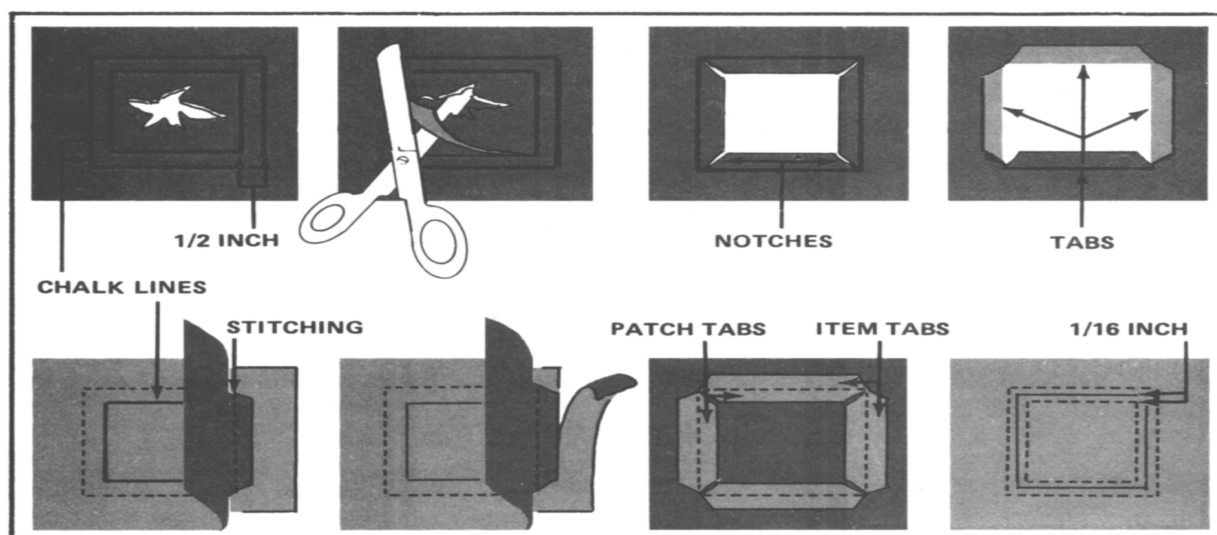

Figure 4-6. Set-in patch
b. Set-In Patch. The set-in patch (Figure 4-6) is not like a top patch or inverted patch, which is sewn on or under a damaged area. A set-in patch takes the place of a damaged area. The damaged area is cut out, and then a set-in patch is tailor-made to fit the hole. A set-in patch is used when a less noticeable patch is needed. To make a set-in patch--
- (1) Place two pieces of material on table faceup.
- (2) Mark materials A and B. Material A represents the damaged area. Material B represents the patch.
- (3) On material A, cut out a 4-inch square from the center of the damaged area. This is done by marking 2 inches from all edges of the damage and mark off a square. Allow 1/2 inch for seaming purpose.
- (4) Notch all four corners of the square at a 45-degree angle.
- (5) Place and center material A over material B. (Materials are faceup.)